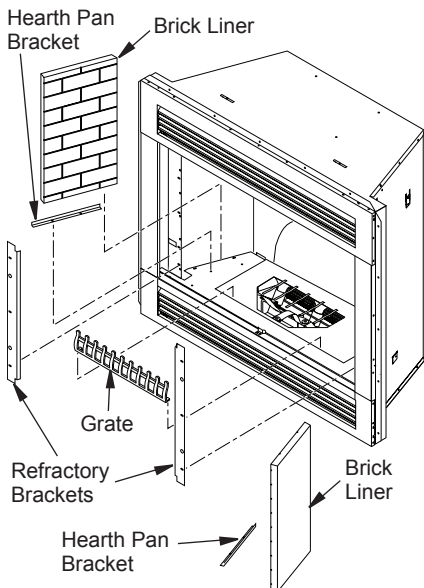

Figure 33 - Accessing Imaging Unit
2. Remove screens, grate, hearth pan brackets and brick liners. See Figure 33 and instructions under *Optional Brick Liners*, page 9.